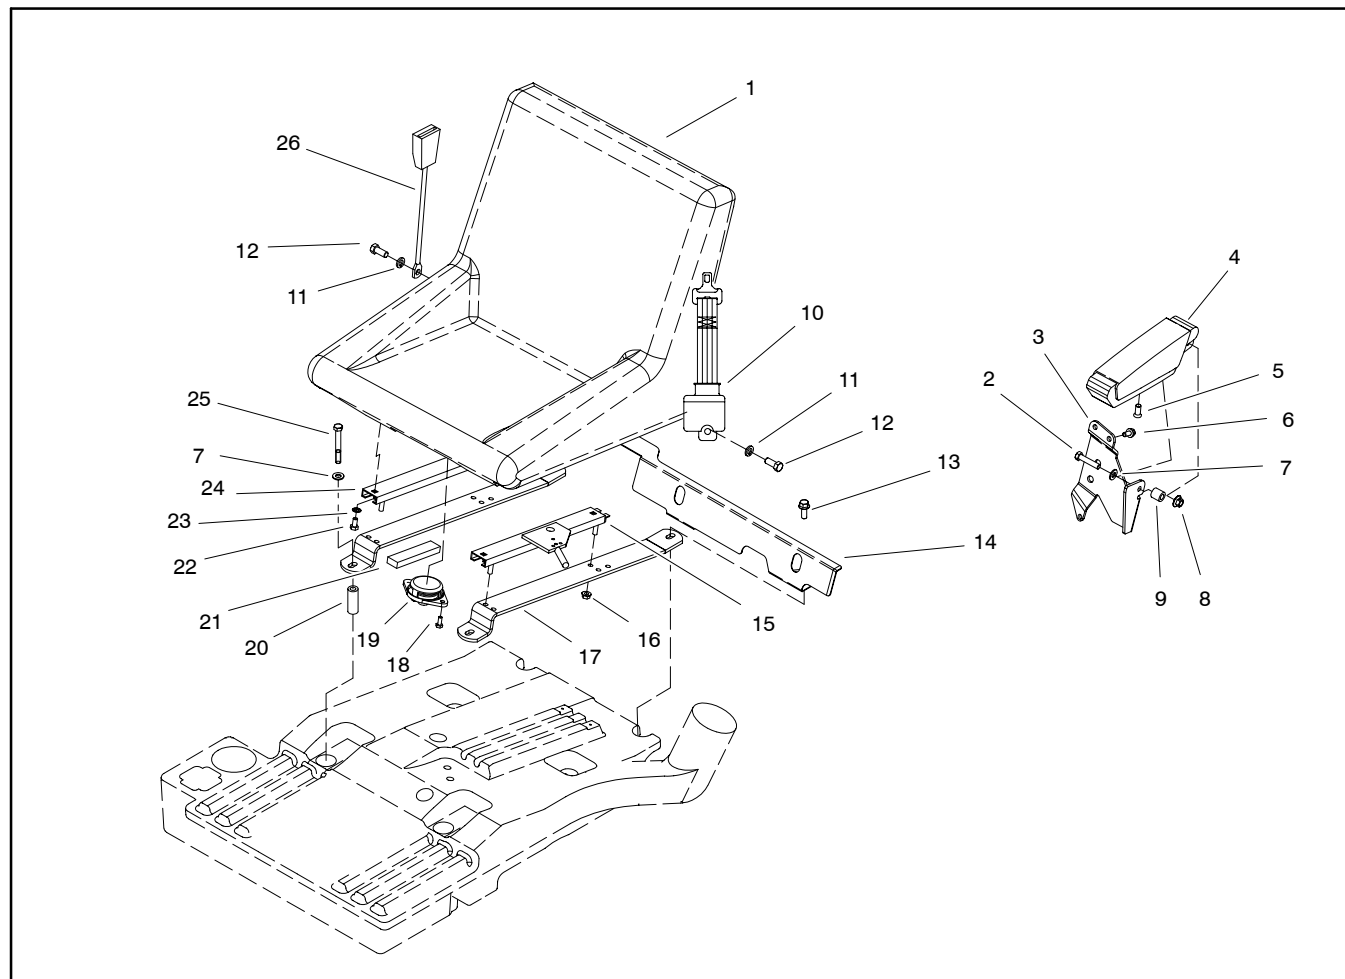

Figure 4
Removal (Fig. 4)
2. Remove two (2) flange head screws (item 13) and two (2) cap screws (item 25) with flat washers (item 7) that secure the seat support straps to the frame. Note location of spacers under front of seat support straps.
4. Remove seat parts as necessary to make repairs using Figure 4 as a guide.
Installation (Fig. 4)
1. Install any new seat parts using Figure 4 as a guide.
4. Secure seat support straps to the machine with two (2) flange head screws (item 13) and two (2) cap screws (item 25) with flat washers (item 7).